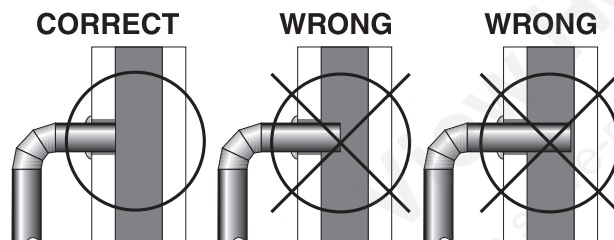

Figure 14 – Stovepipe/Flue Connections
4. The pipe cannot extend into the chimney flue (figure 14).
5. Secure pipe/elbow sections with three (3) sheet metal screws at each joint to make the piping rigid.
6. It is recommended that no more than two (2) 90° bends be used in the stovepipe installation. The use of more than two 90° bends may decrease the amount of draw and possibly cause smoke spillage. Where possible, use only corrugated (non adjustable) elbows. These provide a better seal.
2. Install a metal or fire clay (5/8” minimum thickness) thimble. Make sure the thimble is flush with the inner surface of the chimney liner and does not protrude into the flue (see figure 14 on page 9).
4. Install the stovepipe into the thimble as far as possible without extending past the flue lining (see figures 14 & 15 on pages 9 & 10).